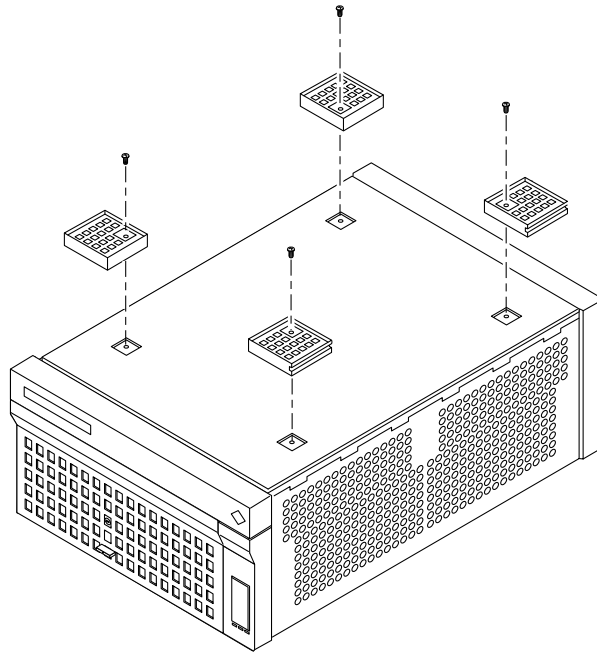

FIGURE 4-2 Removing the Feet
1. **With the aid of an assistant, invert the chassis with the front facing you** (FIGURE 4-2).